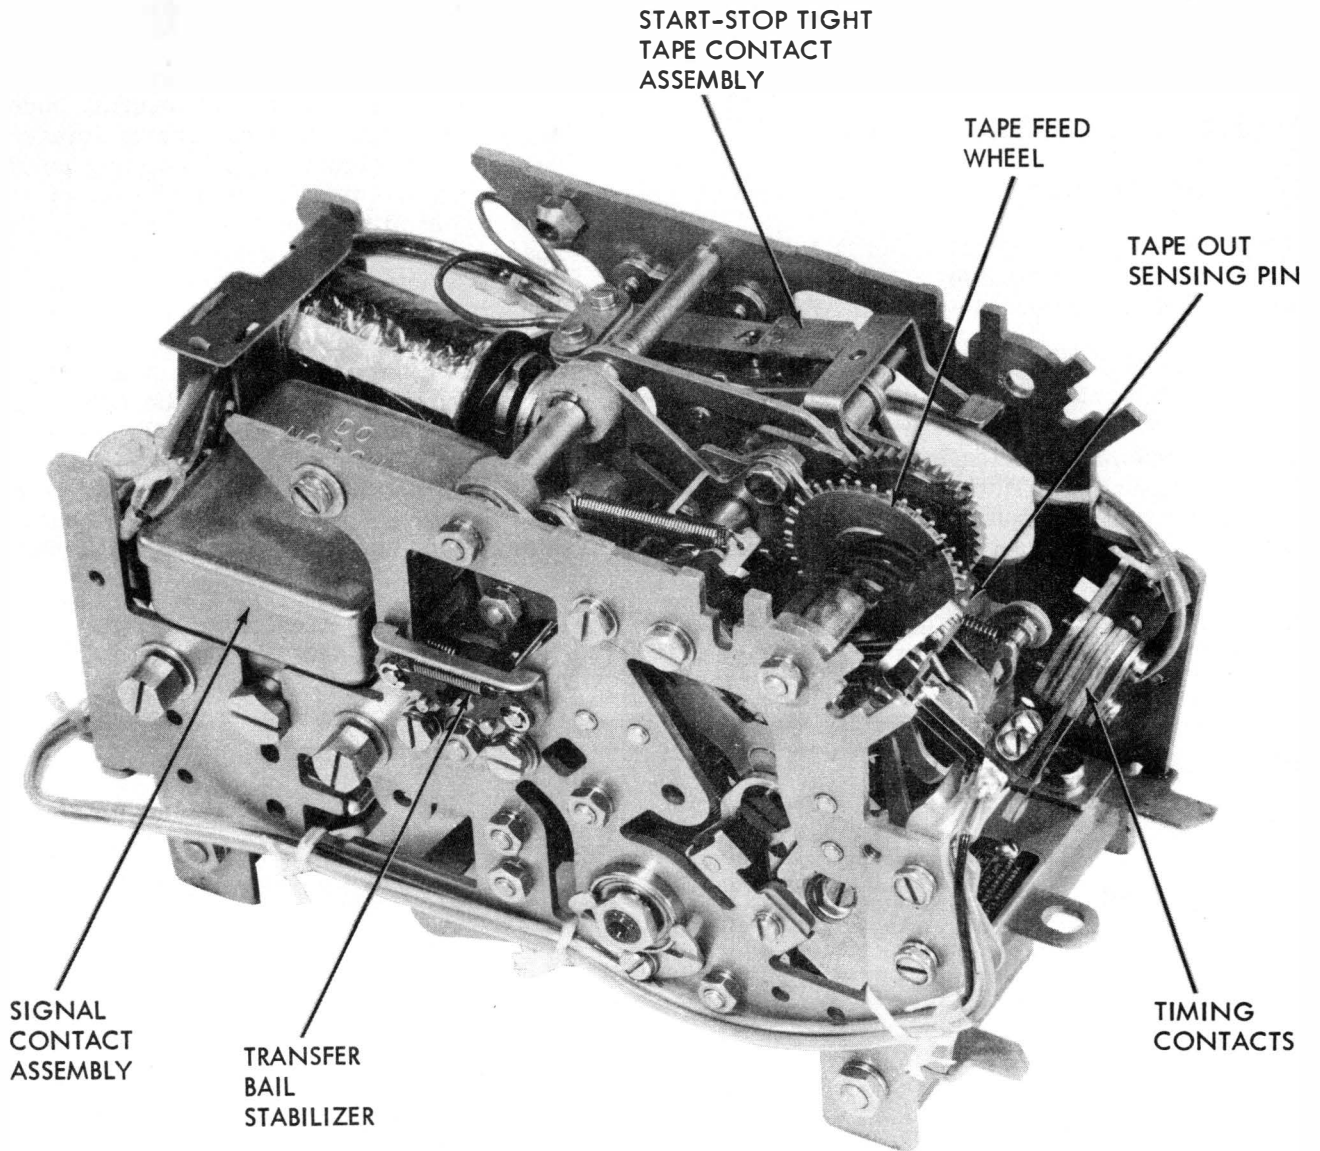
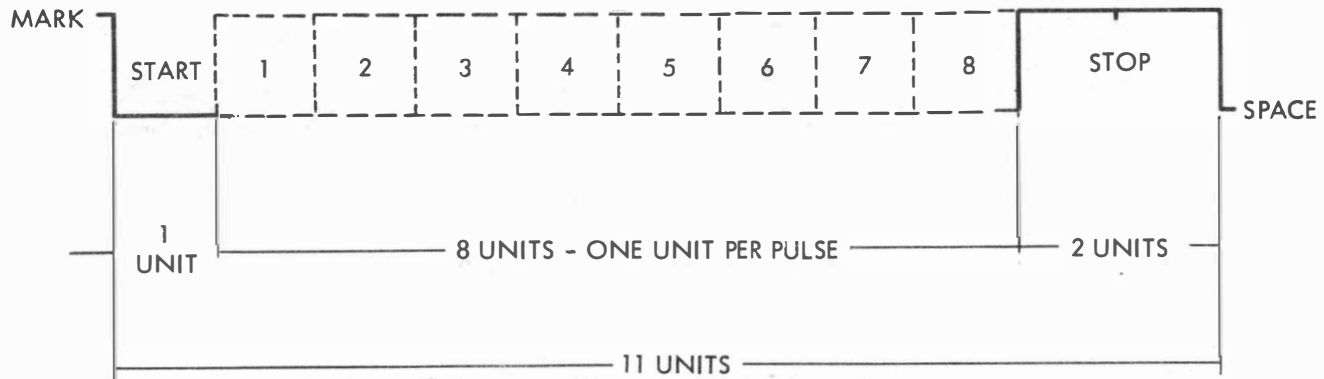
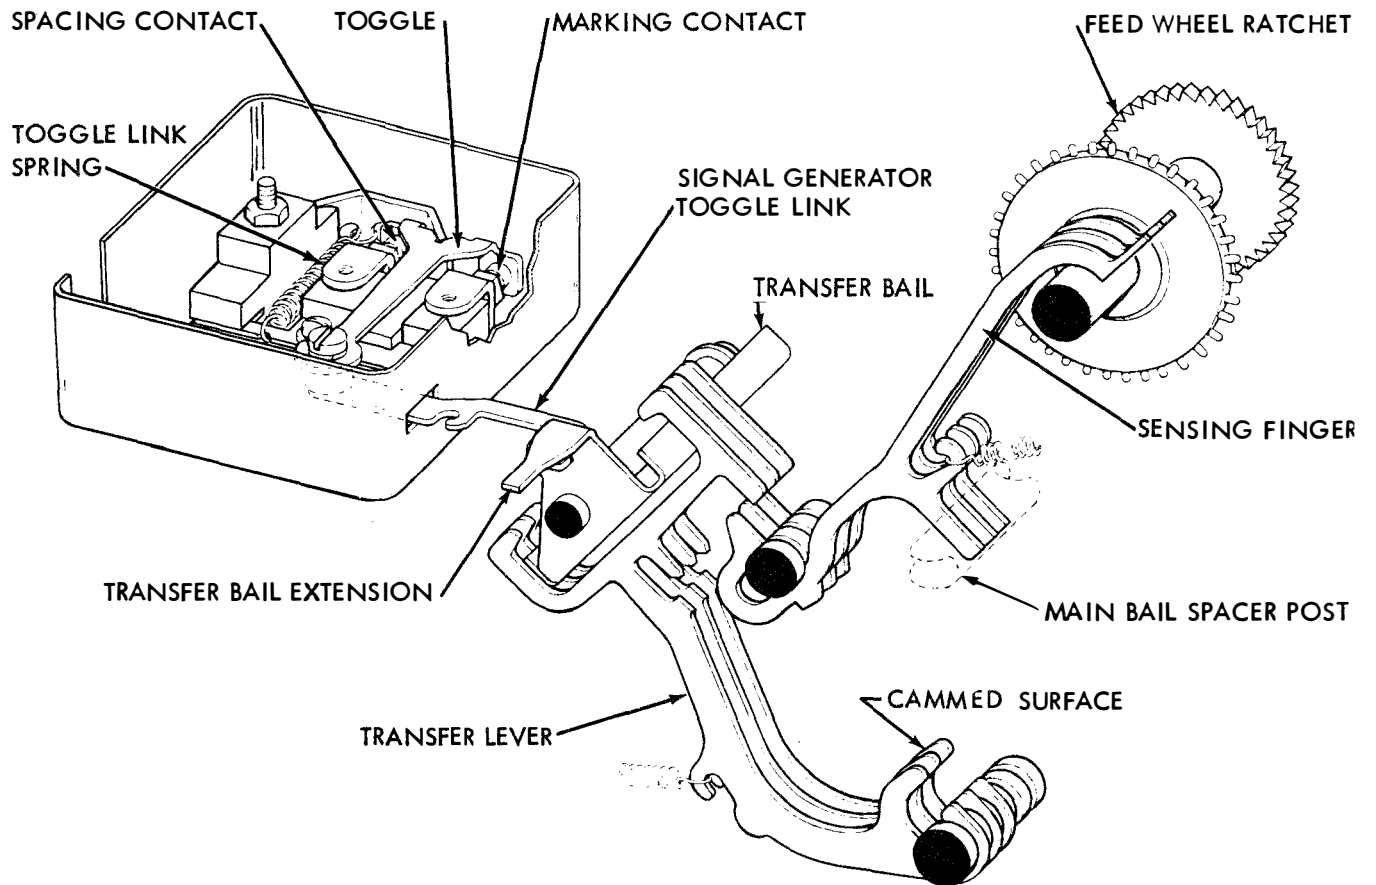

Figure 6 - Transmitter Distributor, Covers Removed (Side View)
Figure 7 - Eleven Unit Transmission Pattern
Figure 14 - Transfer Lever and Signal Generator Mechanisms
1.18 The signalling code transmitted is an eight unit, start-stop neutral code consisting of current and no current intervals, or pulses. See Figure 7. A marking pulse is a measured interval of time during which current flow is permitted through closure of a contact. A spacing pulse is a measured interval of time during which the flow of current is interrupted through the opening of a contact. The transmission pattern for a complete character consists of a start pulse (always spacing), eight code pulses (any one of which may be either marking or spacing) and a stop pulse (always marking). The start and stop pulses are necessary to keep the receiving telegraph apparatus in synchronism with the transmitter. See eight level data interchange code section, for code arrangements.
sensing fingers do not sense a perforation in the tape the associated transfer levers remain stationary and their extensions remain below the line of action of the locking blade on the locking bail. Figure 14.
2.13 Further rotation of the main shaft moves the lobe of the start cam into position and shifts its transfer lever downward. Since the start transfer lever has no sensing finger, the lever is always in the spacing position. The start transfer lever's upper finger hooks the upper side of the transfer bail and causes it to move clockwise. (NOTE: All transfer levers except the start and stop are arranged to move in two directions. The forked end of these eight levers can be moved from the spacing position to the marking position by the associated sensing levers. The transfer levers are also moved downward and to the right in a sequence that is timed to actuate the transfer bail in accordance with the 11.0 unit transmission pattern. See Figure 7. The transfer bail extension moves the signal generator toggle link which causes the toggle to open the marking contact and close the spacing contact in the signal generator contact assembly. Figure 14. The extension, in moving to the spacing position, forces the marking latch on the stabilizer Figures 6 and 15 out of its way and continues its travel far enough to let the spacing latch fall into the latching position simulating a detent action.